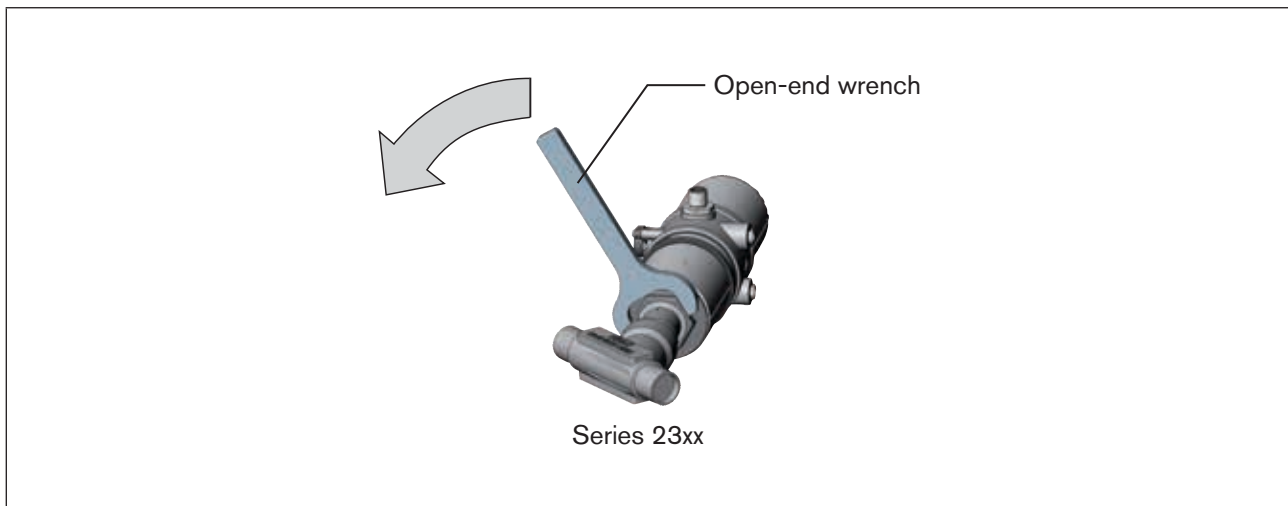

Figure 22: Rotating open-end wrench
- ▶ Rotate the actuator module counter-clockwise only (see "Figure 22").